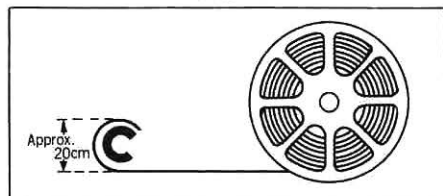

Fig. 5
- when the film end is extremely curled as shown in Fig. 5.